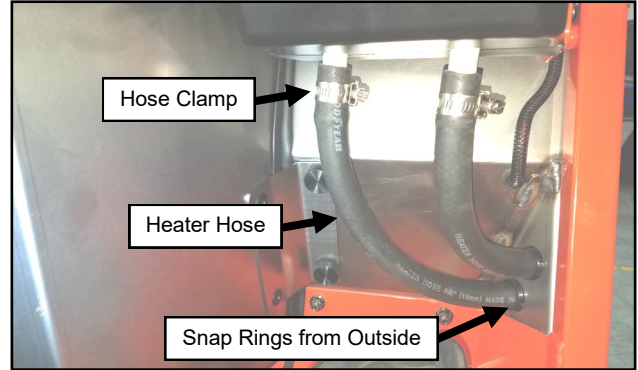

Fig. 20.2 (Snap Rings and Heater Hose)
- 20.2 From outside the cab, install both 3/4" snap bushings into the large holes in the right A-pillar floor board. Feed both ends of the 5/8" diameter hose through the bushings to the inside of the cab, connect them to the nipples on the heater, and secure them with 1" hose clamps. See Figure 20.2.